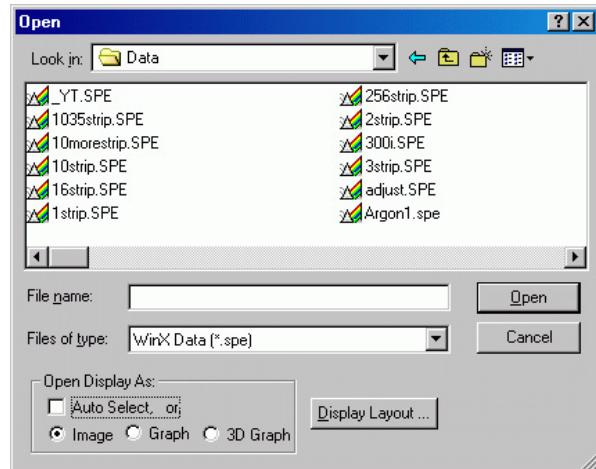

Figure 52. Open dialog
1. Select Open from the File menu. The File Open dialog will appear (Figure 52).
2. Open the directory containing the data files. Clicking on the button at the right of the Look In field opens a browser function, allowing you to quickly and easily access the correct folder. As shown in Figure 52, the data files will be listed below.